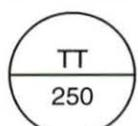

Figure 66. Instrument Tag
- 5. Determine the measured variable and function of the device using the instrument tag in figure 66.